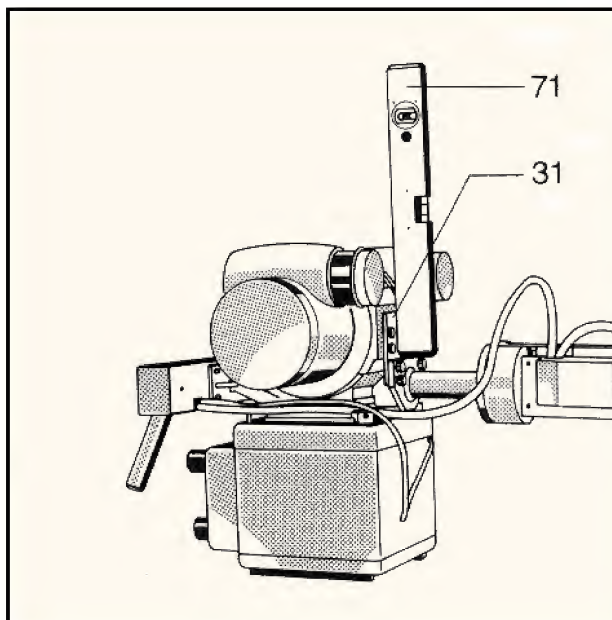
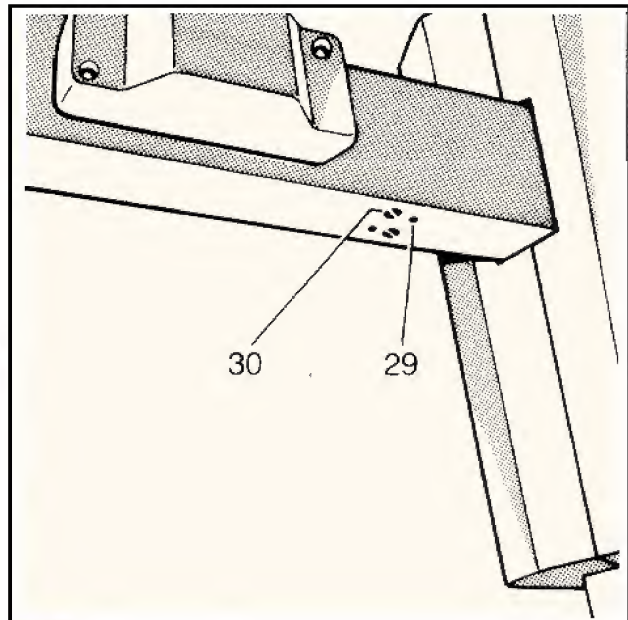

Fig. 21
Fig. 22
Check upright position of flange plate with water level (Fig. 21/item 31). If there is a difference, turn in both socket head screws (Fig. 22/item 29). Adjust upright position of flange plate (Fig. 21/item 31) with water level in place by turning both screws (Fig. 22/item 30). Lock again with socket head screws (Fig./item 29).